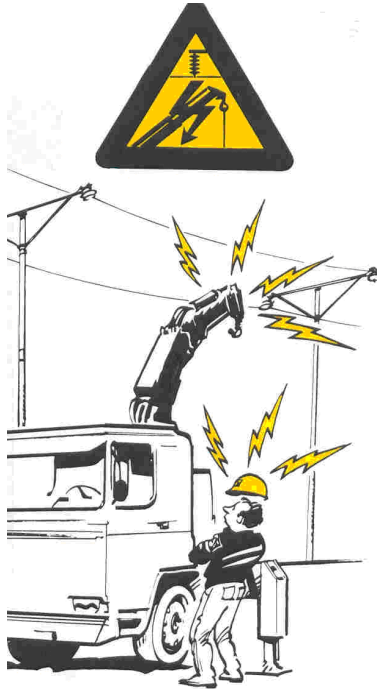

Figure 7.1: Be aware of all potential electrical hazards
- Do not rely on electrical wire coverings for protection from energized lines; step potential and touch potential may still exist (Figure 7.1). The greatest danger is faced by a person who simultaneously touches both the crane and the ground, but a person who is near, but not touching, the crane can also suffer electric shock.